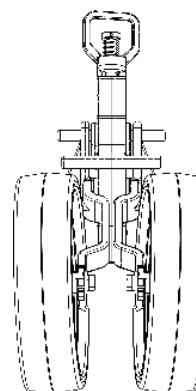

Figures 51
OSCILLATING WHEEL DEPTH ADJUSTMENT (FIGURES 51)
- 1- Loosen the screws and washers (1), remove the wheel (2), perform the adjustment of the wheel (3) by adjusting the wheel axle (4), after fasten the wheel again (2) using the washers and screws (1), **proceed as shown in figure 51.**